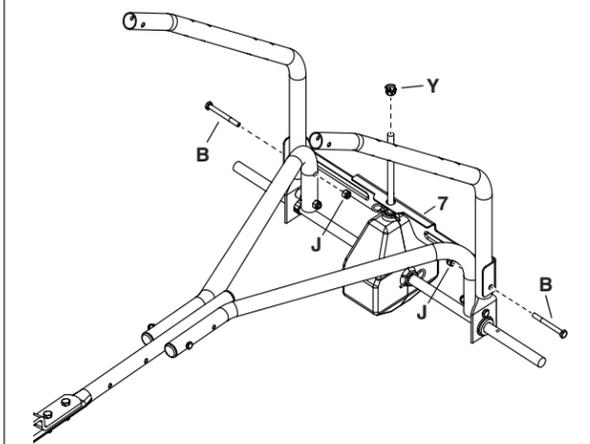

Figure 4
STEP 4: (SEE FIGURE 4)
- Insert the bushing (Y) into the cross brace (7).
- Attach the cross brace to the hopper support tubes using two 1/4" x 2-1/2" hex bolts (B) and 1/4" nylock nuts (J). **Do not tighten completely.**